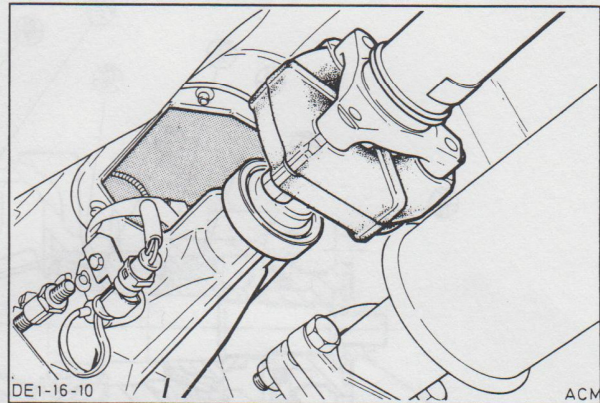

Fig. 78. Guide splined end of driveshaft into extension housing.
9. Remove the plastic sleeve from the extension housing and guide the splined end of the driveshaft into the extension housing Fig. 78.